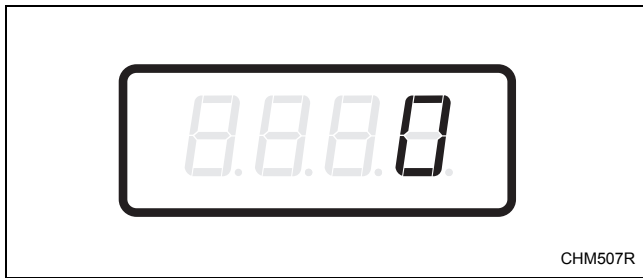

Figure 22
2. When “SA18” appears in the display, press the START (enter) keypad. There are five digits in the Special Vend A Vend Price #8. The fifth digit will appear in the display and will flash one second on and one second off. Refer to *Figure 22*.